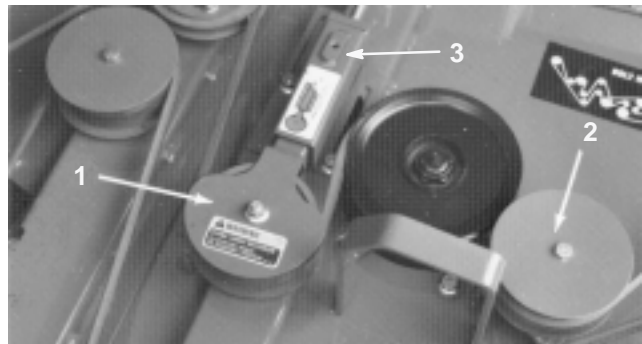

Figure 72
2. To relieve tension on wing belt, pull back on idler pulley until holes in idler adjustor tube and tube sleeve are aligned (Fig. 72). Thread a 5/16 in. capscrew into holes retaining parts.